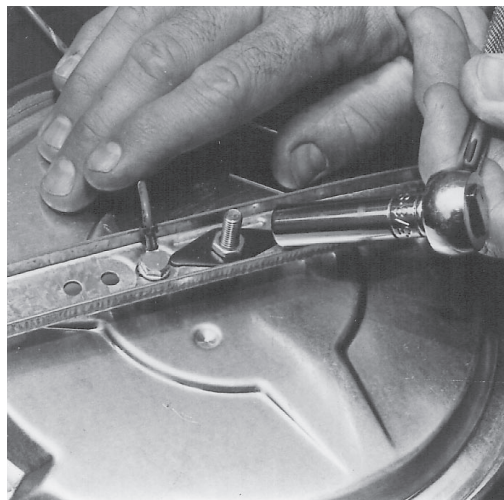

Fig. 23
8. Remove the nut and locking bracket from the plate bottom. (Fig.23)